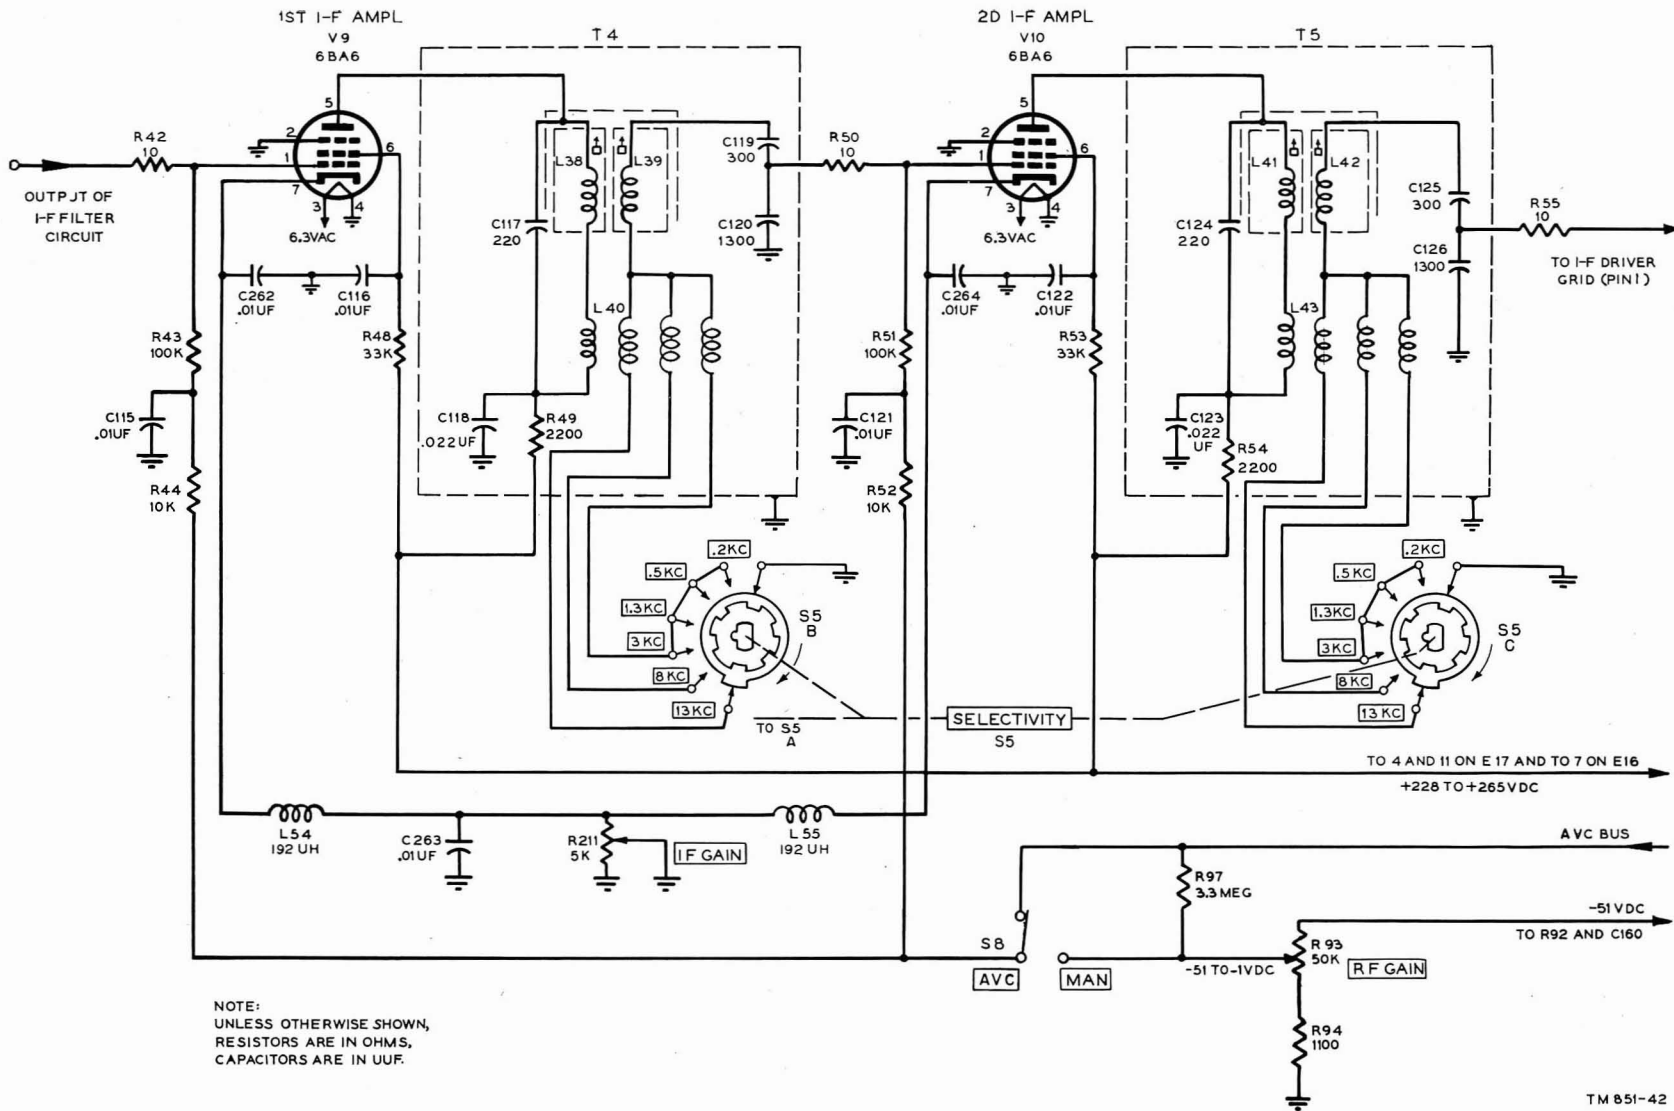

Figure 36. Radio receiver R-320A/FRC, schematic diagram of two-stage i-f amplifier.
*d.* Radio Receiver R-320A/FRC incorporates an IF GAIN control (fig. 36) which provides for the separate adjustment of the gain of two-stage i-f amplifiers V9 and V10. IF GAIN control R211 is connected from the junction of the r-f coils L54 and L55 to ground. Capacitors C262, C263, and C264 in conjunction with L54 and L55 form a filter network between the cathodes of V9 and V10 and ground, so that, with regard to the 455-kc
circuitry (fig. 36), incorporated in the Radio Receiver R-320A/FRC, is described in paragraph 63d.